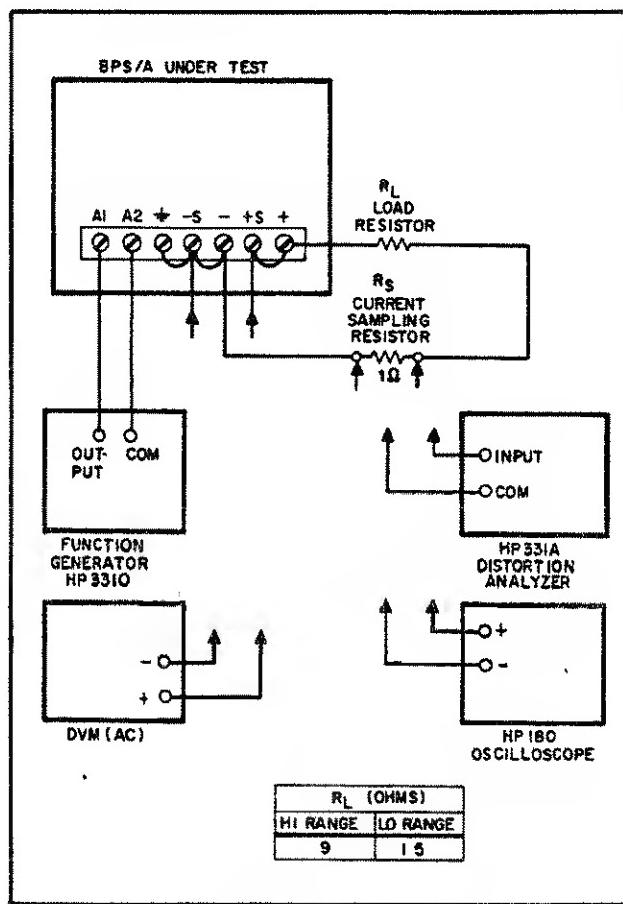

Figure 5-16. Amplifier Mode Test Setup
a. Connect the test setup as shown in Figure 5-16. Use the appropriate low range load resistor (R_L).
- a. Connect the test setup as shown in Figure 5-16.